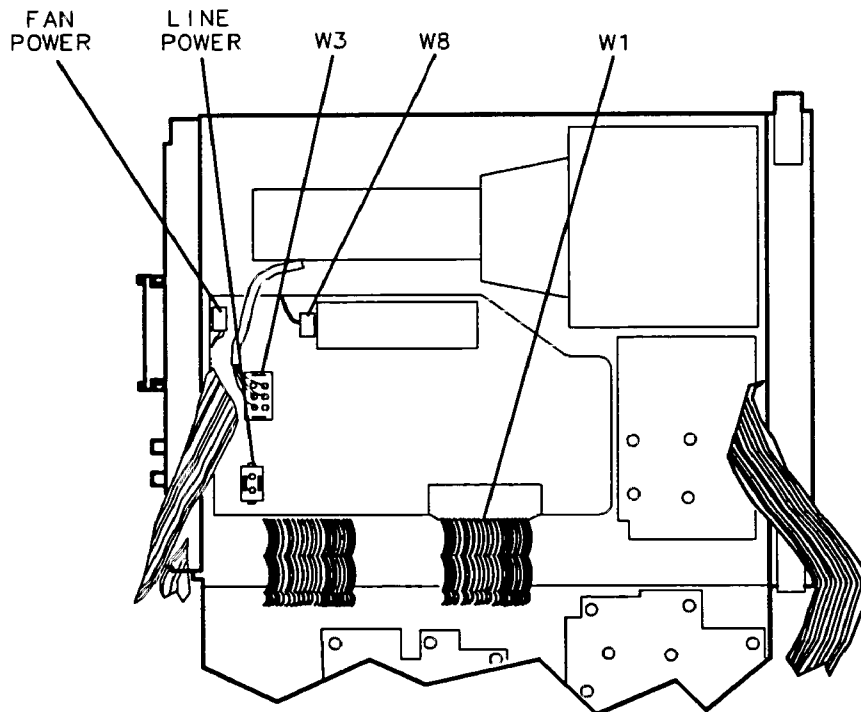

Figure 3-12. A6 Power Supply Connections
2. Connect W1 to A6J1, W3 to A6J2, fan power wires to A6J3, W8 to A6J4, and the line-power jack to A6J101. See Figure 3-12.